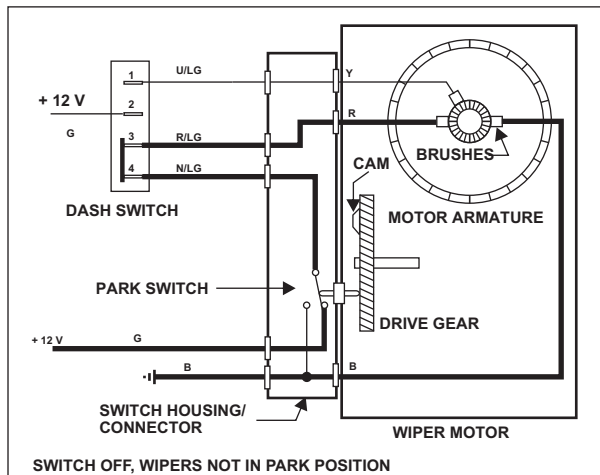

FIGURE 7
C) WIPERS OFF, BLADES NOT IN THE PARKED POSITION: Refer to **figure 7**. With the dash switch off, power is supplied to the motor through the contacts of the parking switch, and the motor continues to operate. Until the drive gear rotates to the point where the cam operates the switch plunger, the motor will operate at the normal, or low speed, just as if the dash switch were still on.